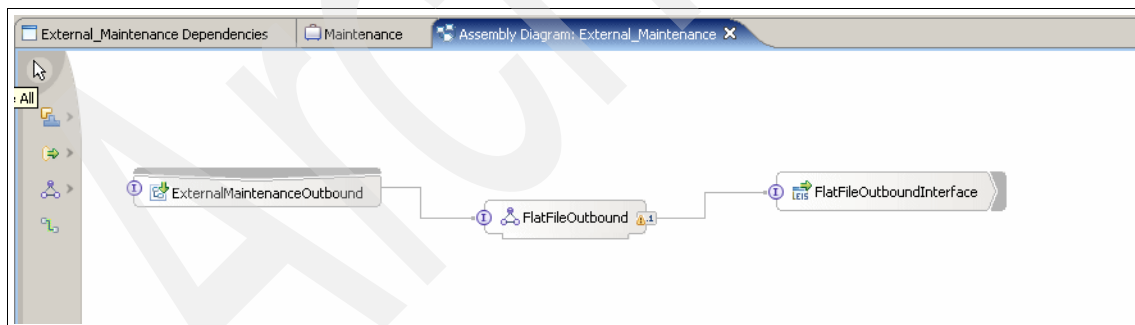

Figure 2-42 Completed assembly diagram
7. Save the changes (Figure 2-42).